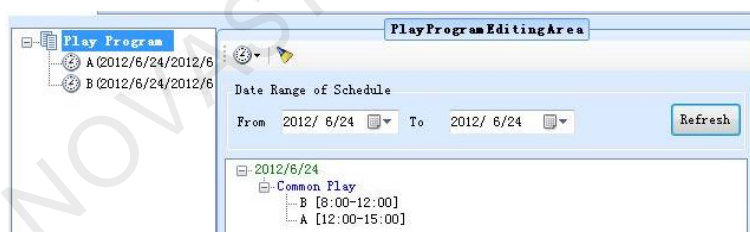

Fig. 10-11 B has higher priority than A
- Otherwise, if A is at the back of B in the play program, then A has the priority to be played on time confliction. The dispatching results will be shown as Fig. 10-11 (In June 24, 2012).